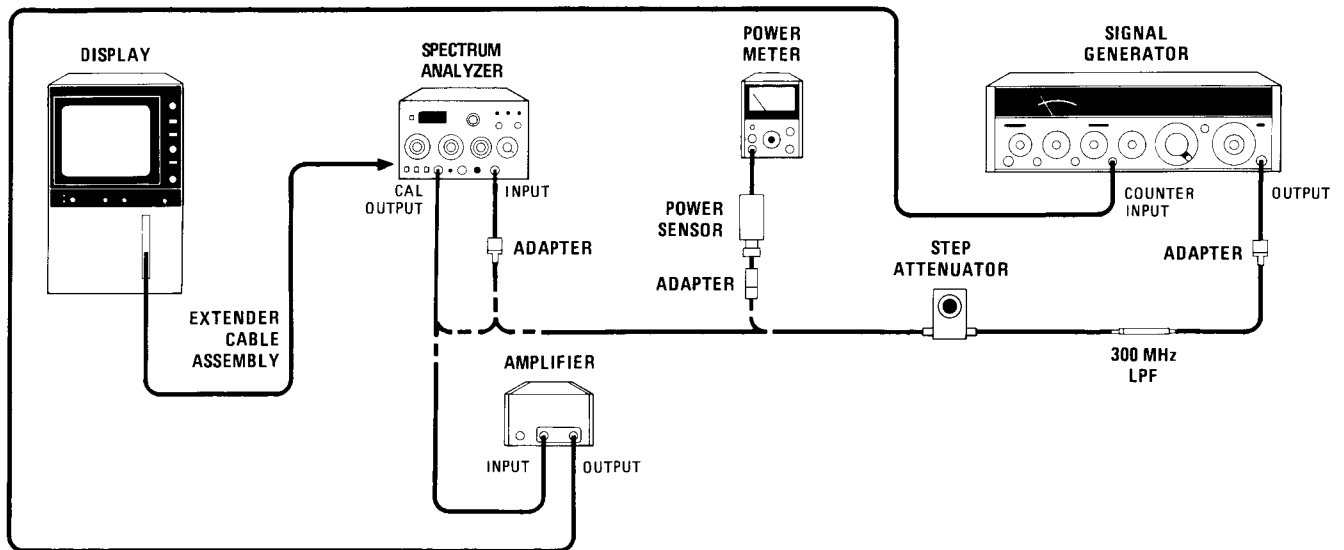

Figure 5-2. Second Converter Adjustment Test Setup
4. Connect equipment as shown in Figure 5-2, using an adapter to connect power sensor to step attenuator. Set step attenuator to 10 dB, and tune signal generator for 250 MHz output signal.